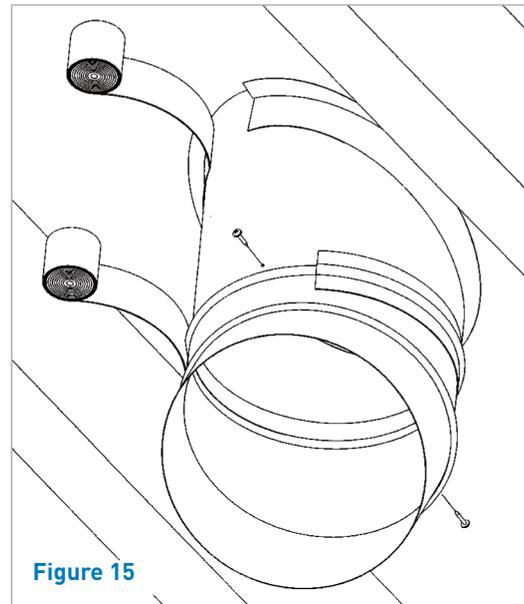

Figure 15
- The joint below the elbow and starter tube should now be fully sealed by wrapping with the adhesive tape supplied. Ensure that the joint is fully covered (Figure 15). At the same time, seal between underlay and starter tube with adhesive tape.